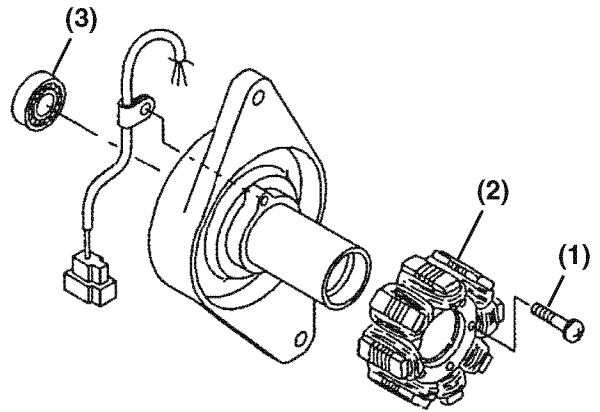

Figure 11-26
4. Remove the screws (**Figure 11-26, (1)**) and the stator assembly (**Figure 11-26, (2)**).
5. Remove the rear bearing (**Figure 11-26, (3)**).
1. Reinstall the rear bearing (**Figure 11-26, (3)**).
2. Reinstall the stator (**Figure 11-26, (1)**).
3. Reinstall screws (**Figure 11-26, (1)**).